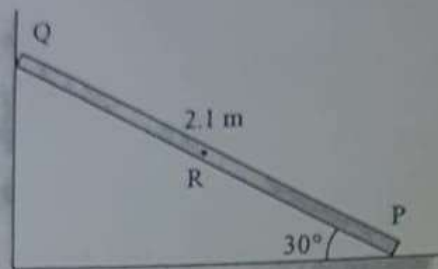

Figure 3.
- Q.4 The rod as shown in Figure 3 has a velocity 6 m/s vertically at point Q. Determine the angular speed of PQ, velocity of end P, and the velocity of middle point R of PQ. The length of the rod is 2.1 m. Use the method of instantaneous center. [5] CO2 M